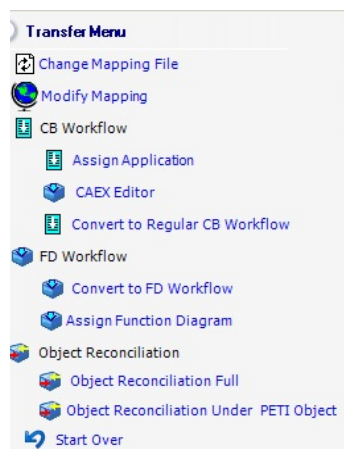

Figure 16. Options for Converting from Control Builder Workflow to Function Diagram Workflow
1. Select **Convert to FD Workflow** (Figure 16).
2. Select **Assign Function Diagram** (Figure 16).